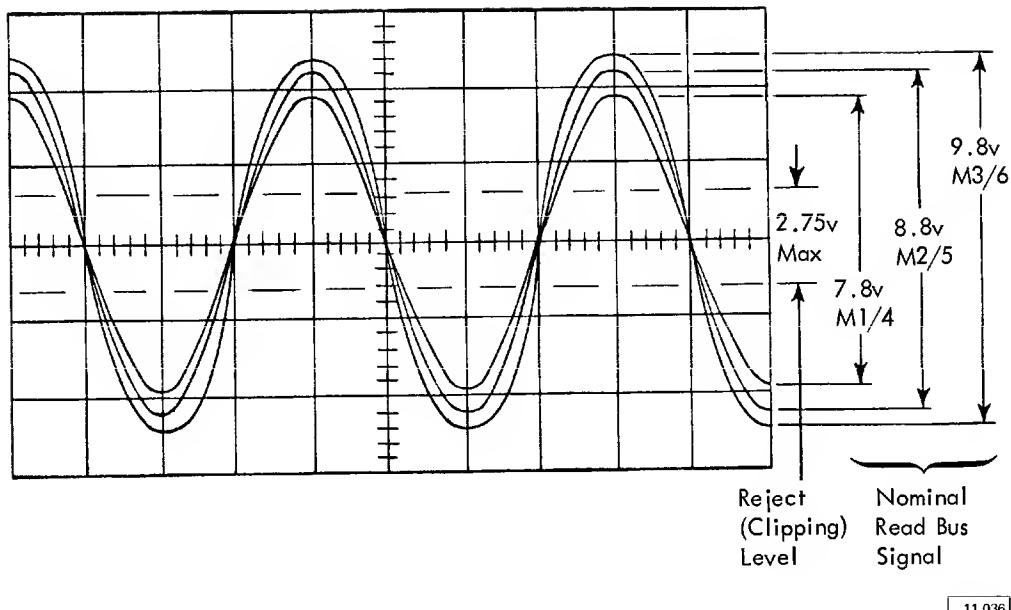

Figure 33. Read Checking of Nine-Track NRZI Write Operation
*Write Clipping Level:* See Figure 33.